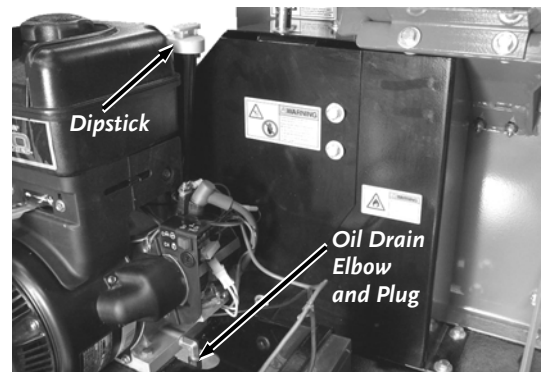

Figure 25
2. Remove the Oil Drain Plug from the Oil Drain Elbow with a 5/8" wrench (**Figure 25**). Allow the used oil to drain completely, and then replace the Oil Drain Plug.